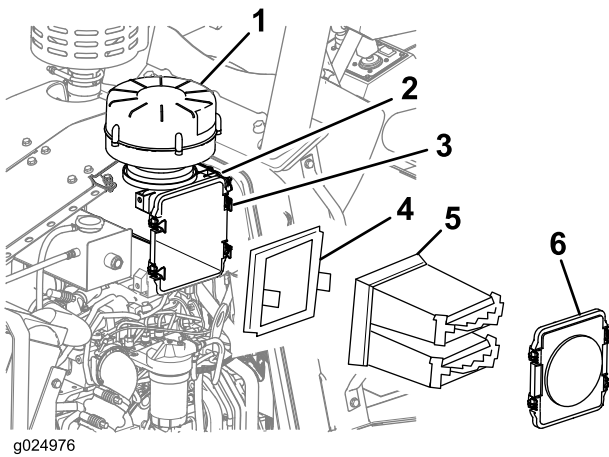

Figure 75
2. Unlatch the 4 latches that hold the air-cleaner cover and remove the cover (Figure 75).
3. Remove the primary and secondary air-cleaner elements from the air-cleaner housing (Figure 75).
4. Use a clean damp cloth to clean the inside of the cleaner housing (Figure 75).
10. Secure the air-cleaner cover to the air-cleaner housing with the 4 latches on the housing (Figure 75).